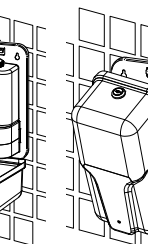

Fig.7
- 4.10 Close the cover and lock the dispenser (Fig.7, Fig.11).